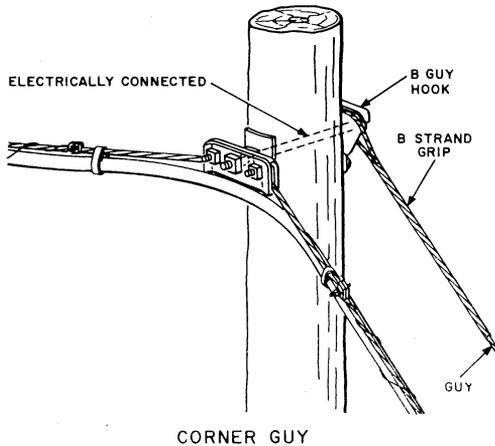

Fig. 6—Guy Grounded at Corner
3.01 All guys are to be grounded or insulated (Section 621-405-201). Grounding is accomplished by electrically connecting the guys to an effectively grounded telephone cable suspension strand or by connecting the guy to the vertical ground of a multigrounded neutral power system. Where the guy and strand are attached to the same guy bolt or cable suspension bolt, they are electrically connected. Examples are shown in Fig. 6, 7, and 8.